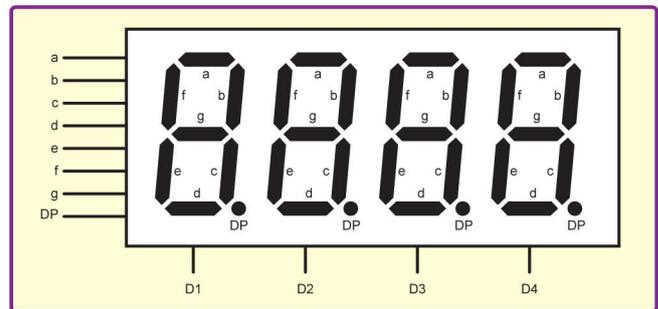

Fig.2. Four-digit, seven-segment display
Each segment in a seven-segment display is an individual LED, referenced with an industry-standard labelling system: a, b, c, d, e, f and g, as shown in Fig.2. (In fact there are often *eight* LEDs in a seven-segment display! An additional round LED or dot/decimal point (DP) is usually included.) The main seven segments allow us to show any digit from 0 to 9. For example, if we want to display the number 5, we would turn on segments a, f, g, c and d.
The pin connections in Fig.2 hint at how we can do this with a four-digit seven-segment display. Note how there is only one pin for 'a'. If this was a common-cathode display, then D1, D2, D3 and D4 would all be the cathode side of the LEDs. To light an LED, we would need to connect the cathode to ground and pull any of the anode pins